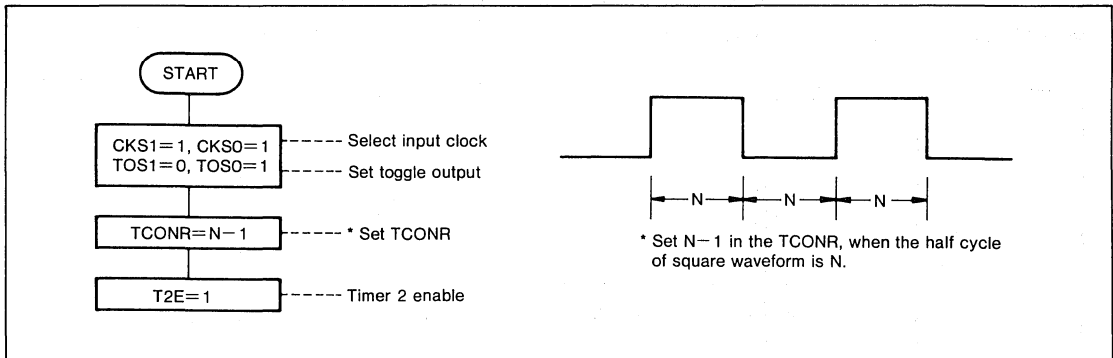

Figure 8-6. Square-Wave Generator
**Square-Wave Generator.** Timer 2 can generate a continuous square wave without software supervision. Figure 8-6 shows this routine.